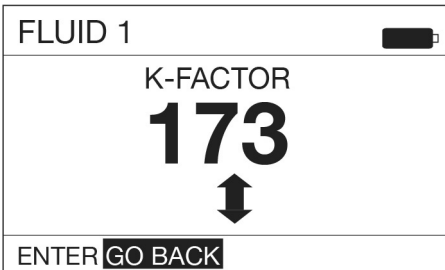

FIG. 66
3. The k-factor adjustment screen shown in FIG. 66 displays.